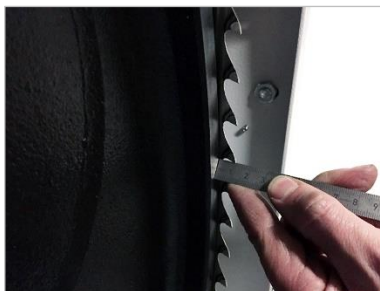

Figure 56: Measure tooth protrusion
- The bandsaw blade should now be positioned on the wheels so that the tips of the teeth protrude approx. 8 - 10 mm from the front edge of the wheel over the entire length of the saw blade (as shown in ⇨ Figure 56).